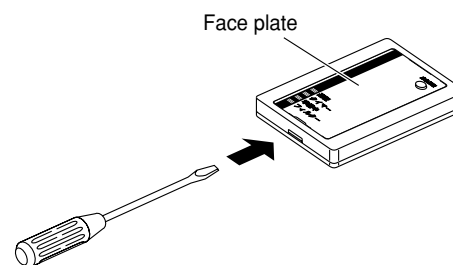

Fig. 11-23
1. Insert a flathead screwdriver or similar tool into the groove on the bottom of the receiver unit. Pry open with the screwdriver and remove the lower case. (Fig. 11-23).